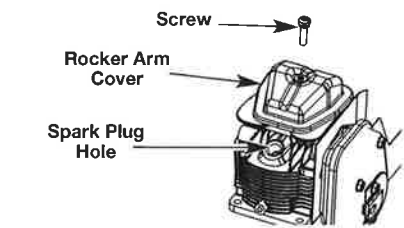

Fig. 26
5. Clean dirt from around the rocker arm cover. Remove the screw holding the rocker arm cover with a large flat blade screwdriver or Torx T-25 bit (Fig. 26). Remove the rocker arm cover and gasket.
- The piston is at the top of its travel. This should be done by looking into the spark plug hole. (Fig. 26)